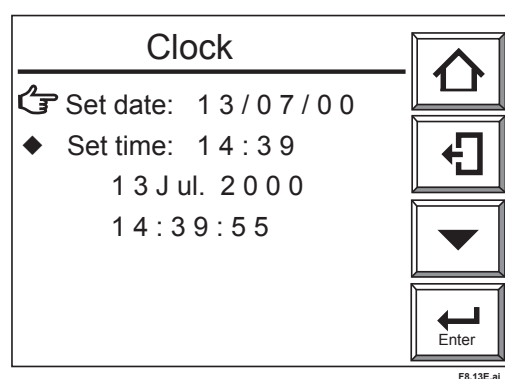

Figure 8.13 Clock Display
- (4) Select “Clock” and the display of Fig 8.13 appears.
- (5) Select “Set date” and the numerical entry display appears. To enter June 21, 2004 , enter 210604. Touch the [Enter] key and you revert to the display of Fig 8.13.
- (6) Select “Set time”. Enter the time in 24-hour format. To set 2:30 pm, enter 1430 on the numerical display and touch enter. Touch the [Enter] key. The clock starts from 00 seconds..